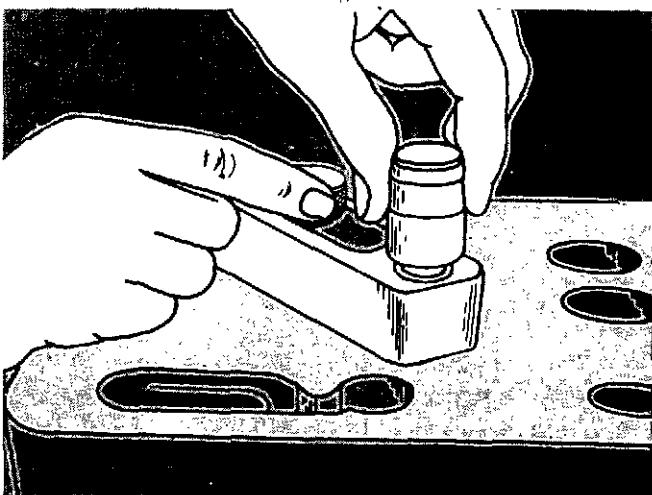

Fig. 2-19. Align The Bushing With The Water Hole.
4. Insert the locating pin through the 5/8 inch bushing and into the water hole to be repaired. Use your hand to tighten the adapter knob to approximately 50 ft.-lbs. [68 N•m], Fig. 2-19.